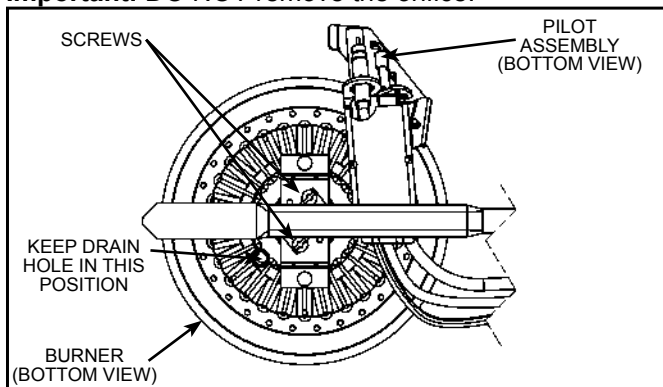

Figure 34
- Take off the burner by removing the two (2) screws located underneath the burner.
- Check the burner to see if it is dirty or clogged. The burner may be cleaned with soap and hot water (see Figure 34).
- When replacing the burner, ensure the drain hole is in the position shown in Figure 34.
- Remove the burner to access the pilot/thermopile assembly. Remove and keep the screws securing the burner to the manifold (see Figure 34).